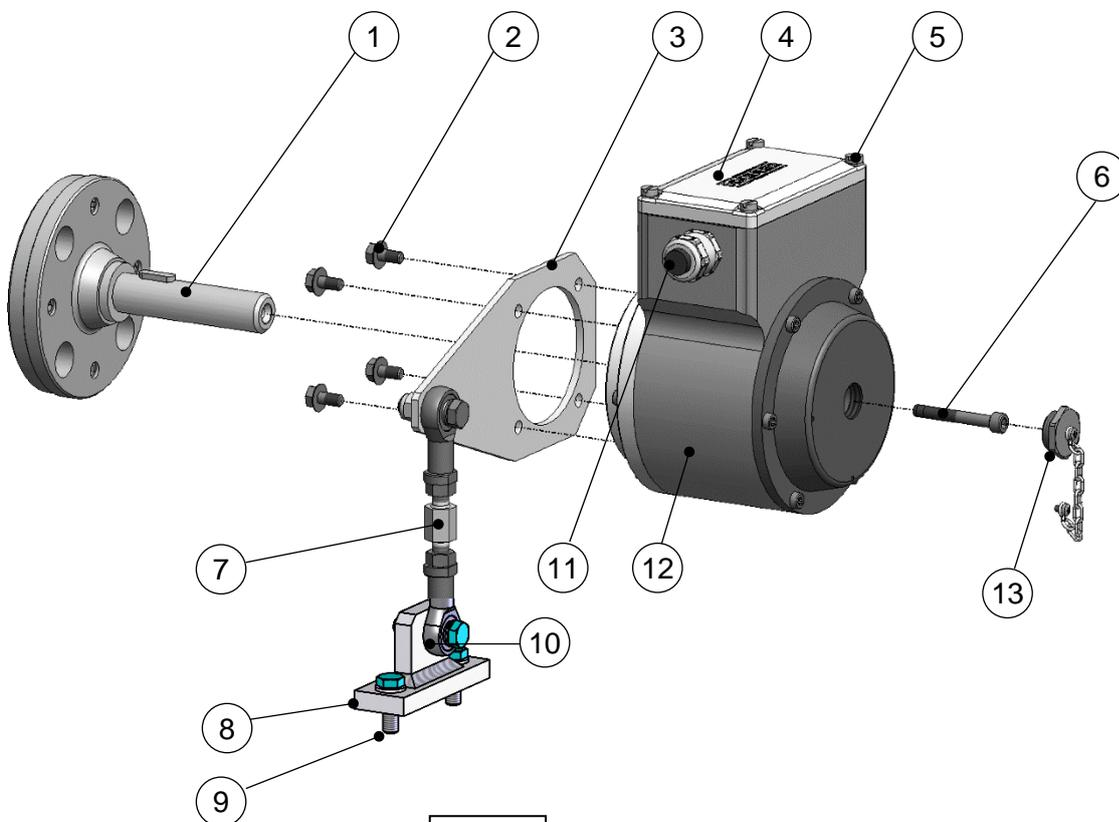

Fig. 1:
4. Secure the hollow-shaft device with the hexagon socket head cap screw (6). (Fig. 1).